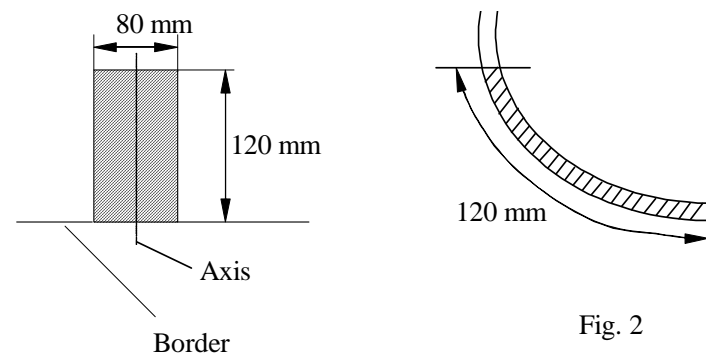

Fig. 2
3. Insert the beam (pos. 1) in the tunnel of spars, and then twist with the screws M10x35mm (pos. 5) and big washers (pos. 6) from the accessories.
4. Mount the bumper, after previous cutting a fragment as well in the fig. 2.